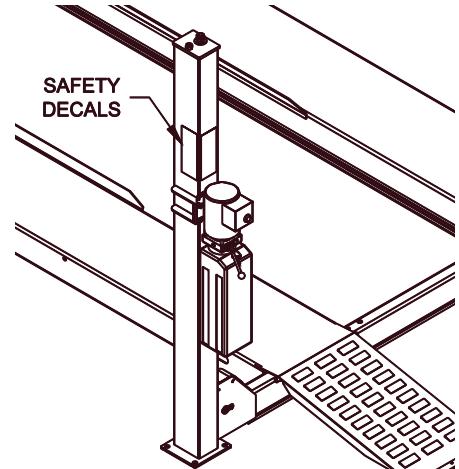

**Fig 13 – 4mm Air Line Connection**
- 37) Use the provided wire ties and adhesive tabs to connect the 4mm air line inside the ends of the front and rear cross beam to the side plate welds as shown in **Fig 13**.